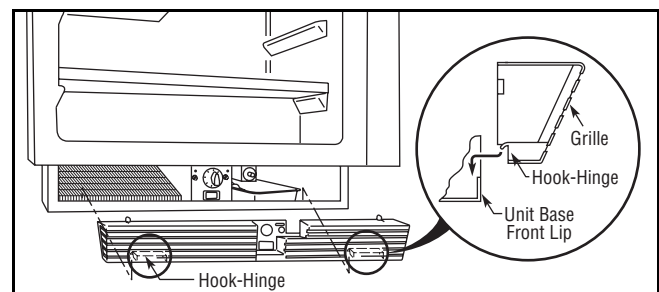

Figure 13
4. Place the two hook-hinges (located on the rear bottom side of the grille) onto the front lip of the unit base (**Figure 13**). Swing the grille up into position, aligning the screw hole on the grille to the screw hole on the cabinet.